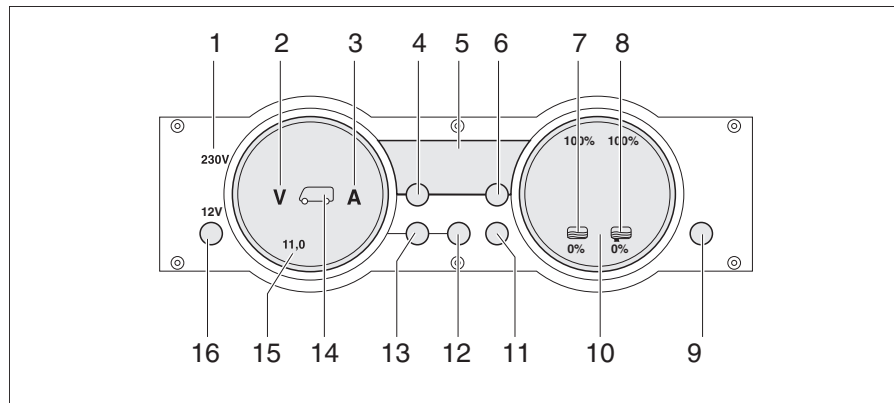

Fig. 271 Panel MP 20-S
The 230 V indicator lamp (Fig. 271,1) lights up whenever line voltage is available at the transformer/rectifier input.
The 12 V main switch (Fig. 271,16) switches the panel and the 12 V power supply of the living area on and off.
- Briefly press the "12 V" button (Fig. 271,16). The 12 V living area power supply is switched on. The "12 V" indicator lights up.
- ▷ If, after switching on, the "11.0" LED of the volt indicator and the "V" volt symbol (Fig. 271,2) in the batteries gauge (Fig. 271,15) flash, the voltage of the living area battery is too low. Charge battery.
- ▷ If, after switching on, the "12 V" indicator, the symbol for the living area battery (Fig. 271,14) and the "V" volt symbol (Fig. 271,2) flash three times, battery separation is activated. Deactivate battery separation.
- Briefly press the "12 V" button (Fig. 271,16). The 12 V living area power supply is switched off. The "12 V" indicator goes out.
- Press button for living area battery (Fig. 271,12) and hold it down for approx. 10 seconds. The "V" volt (Fig. 271,2) and "A" ampere (Fig. 271,3) symbols flash three times. The living area battery is disconnected from the 12 V power supply.
- Press the "12 V" button (Fig. 271,16) and hold it down for approx. 5 seconds. The "V" volt symbol (Fig. 271,2) flashes three times. The living area battery is connected to the 12 V power supply. The indicator lights up after approx. 2 seconds.
- Press the living area battery  button (Fig. 271,12). The "V" volt symbol (Fig. 271,2) lights up. Depending on whether the battery is being charged or discharged, the "A" ampere symbol lights up white or red respectively. The battery voltage and current of the living area battery are displayed using the LEDs in the gauge.
- Press the starter battery  button (Fig. 271,13). The "V" volt symbol (Fig. 271,2) lights up. The battery voltage of the starter battery is displayed using the LEDs in the gauge.
- Press the Tanks "" button (Fig. 271,11). The water tank "" (Fig. 271,7) and waste water tank "" (Fig. 271,8) symbols light up. The fill level of the water tank (left-hand scale) and the waste water tank (right-hand scale) are indicated using the LEDs in the gauge.
The "V" volt symbol (Fig. 271,2) and the "11.0" LED flash as soon as the battery voltage falls below 11 V (measured during operation) and there is the threat of a total discharge.
The water tank symbol "☞" (Fig. 271,7) or waste water tank symbol "☞" (Fig. 271,8) flashes when the water tank is empty or the waste water tank is full.